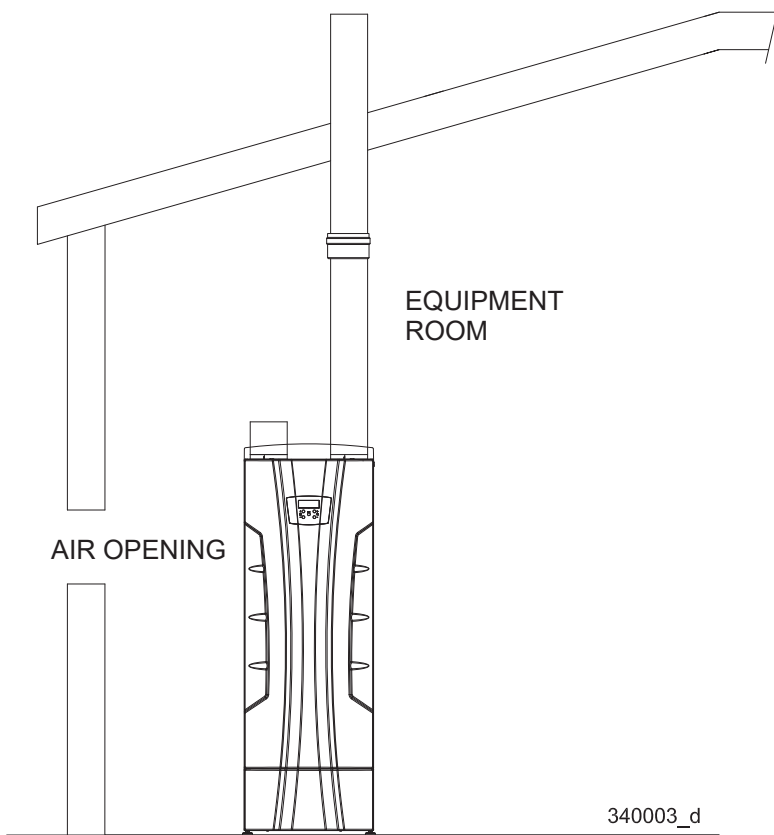

Figure 5-3 Combustion Air from outside - single opening
3.- If a single combustion air opening is provided to bring combustion air in directly from the outdoors, the opening must be sized based on a minimum free area of one square inch per 3000 Btu/hr (7 cm² per kW). This opening must be located within 12" (30cm) of the top of the enclosure (see Fig.5-3).